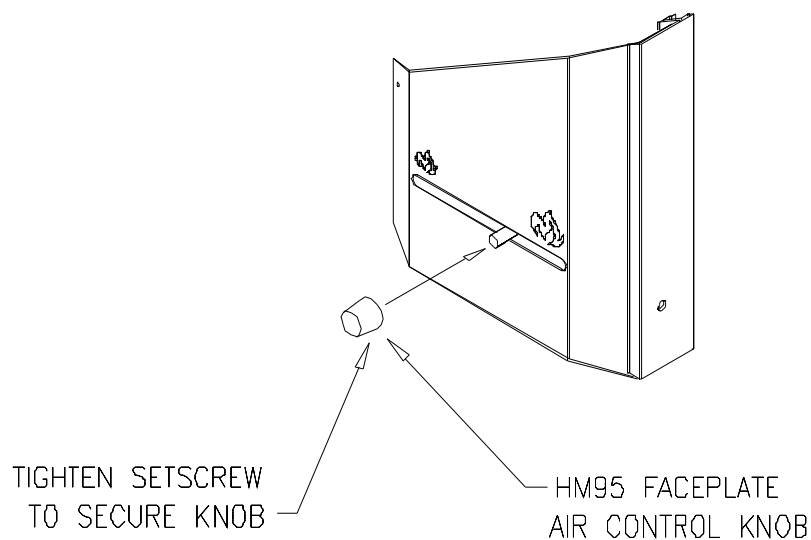

Figure 2.9h
10. Add the air control knob (Figure 2.9h).